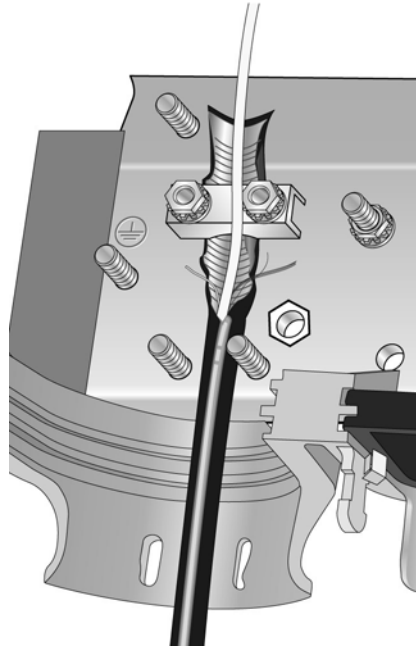

Figure 16. Positioning the Cable
10. Position the cable so that the opened shielding goes under the strength member clamp and the closed portion of the cable is about 0.25 in. (0.7 cm) beyond the drop cable clamp posts as shown in Figure 16